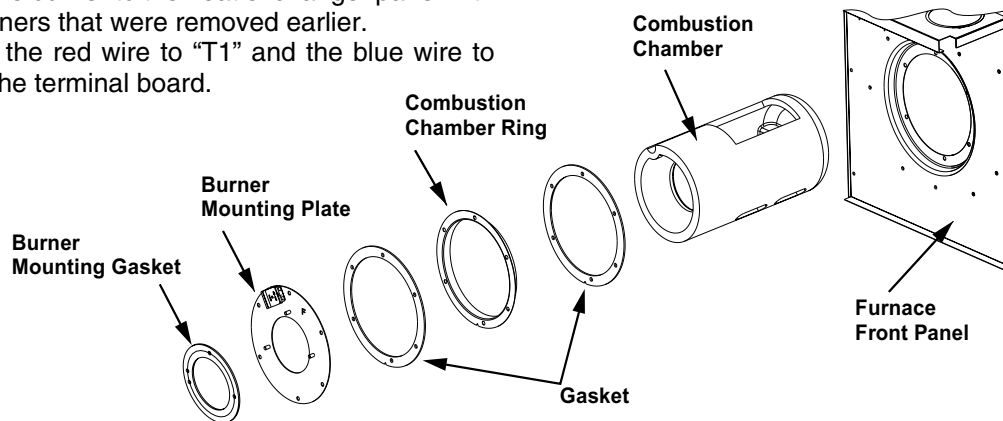

Figure 1. Burner Assembly
number on the rating plate of the furnace. The serial number will look like M1*9810****. The fourth through seventh digits represent the date code of the furnace. In the above example, 9810 represents October 1998. If the date code on the furnace is prior to 9811, then a ceramic combustion chamber (part #903423), which is shown in Figure 1, must be added to the furnace (if not already present). If a ceramic combustion chamber is added to the furnace, then the main air limit must be replaced with another main air limit (part #626469). **NOTE:** These items are not included in this kit and must be ordered separately.
- A) Remove the burner mounting plate by removing the fasteners that hold the plate to the furnace. See Figure 1.
- D) Re-install the combustion chamber ring and the burner mounting parts as shown in Figure 1. **NOTE:** Make sure the gaskets (provided in the combustion chamber kit) are properly positioned as shown in Figure 1.